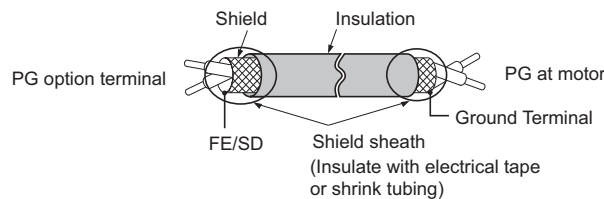
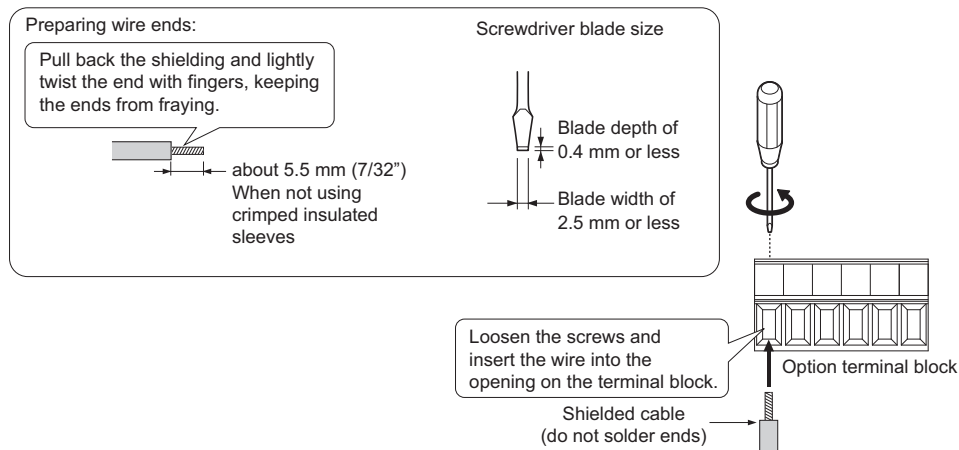

Figure 8.7 Preparing Ends of Shielded Cable
Figure 8.8 Preparing and Connecting Cable Wiring
2. There are two screw holes on the drive for use as ground terminals (H). When connecting three options, two ground wires will need to share the same drive ground terminal.
4. Prepare and connect the wire ends as shown in Figure 8.7 and Figure 8.8. Refer to Wire Gauges and Tightening Torques on page 436 to confirm that the proper tightening torque is applied to each terminal. Take particular precaution to ensure that each wire is properly connected and wire insulation is not accidentally pinched into electrical terminals.